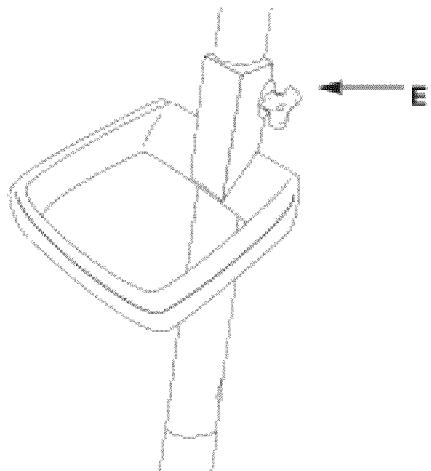

Figure 4
4. Locate in the Parts Bag the slotted screw (C) and the countersunk nut (D). Insert the screw through the aligned holes in the upper and lower tubes and secure other end with the nut.
5. Loosen the adjustable handle and reposition until it reaches the optimum length for the principal operator, then retighten the bolt in Figure 4. (Readjust for each subsequent operator)